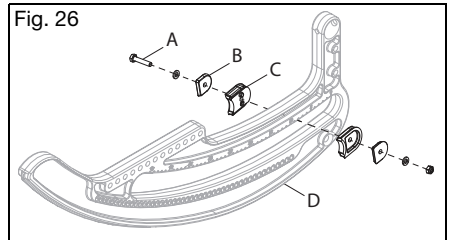

Fig. 26
- Place the tilt stop pads (Fig. 26:A) on both sides of each rotary frame (Fig. 26:B) at the desired location. Pads should nest together.
- Place the thrust plates (Fig. 26:C) into the pockets on the pads.
- Insert and tighten the screw (Fig. 26:D) with the nut and the washer to lock into place.